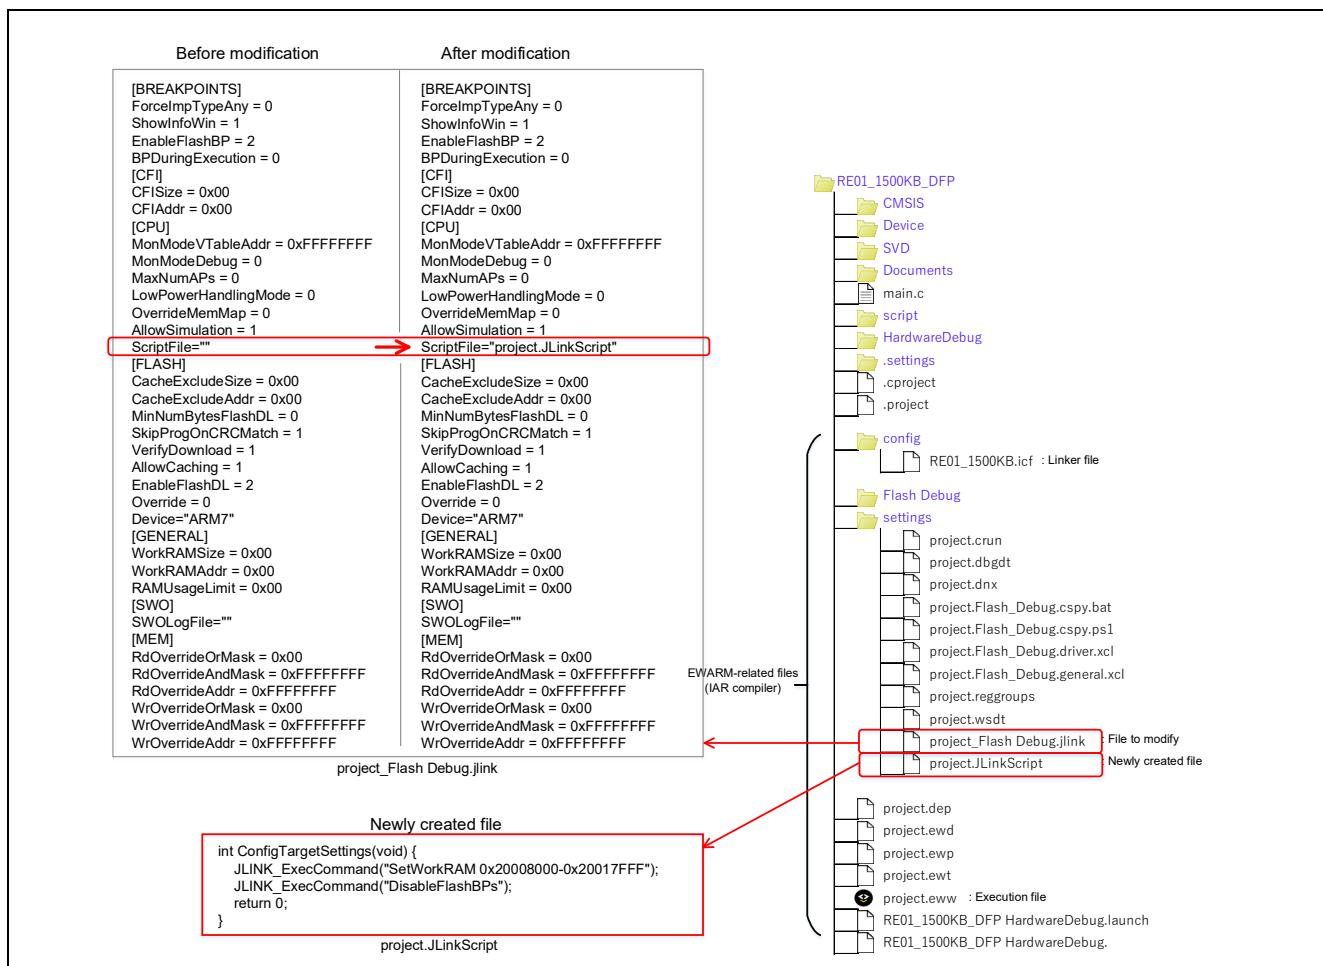

Figure 9-5 Example of Prohibition of Setting Software Breakpoints in Internal Flash Memory Regions (EWARM)
- Open the project using EWARM, edit the file [project name]_Flash Debug.jlink that is generated upon initially starting J-Link OB referring to Figure 9-5, and newly create a script file with a desired filename.